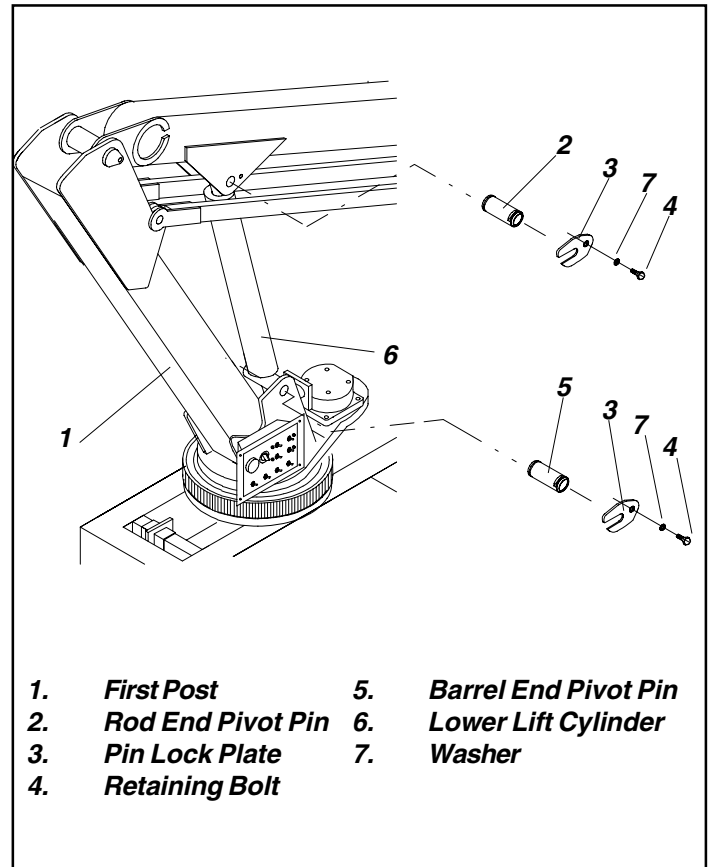

Figure 4-17: Lower Lift Cylinder
4.14 Lower Lift Cylinder (Figure 4-17)